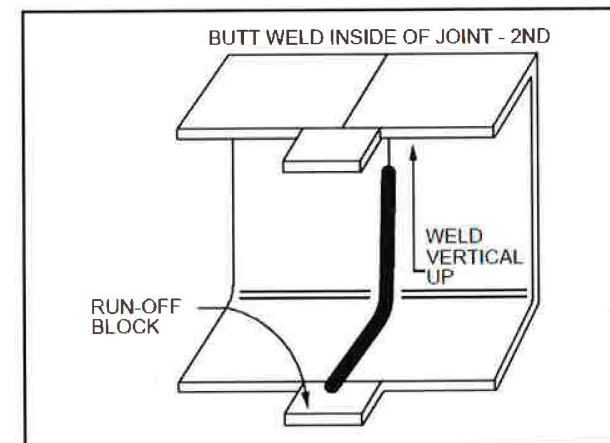

Figure 34 – Welding Inside of Frame
- Butt weld the inside of the joint with a single pass, vertical, up. (See Figure 34)